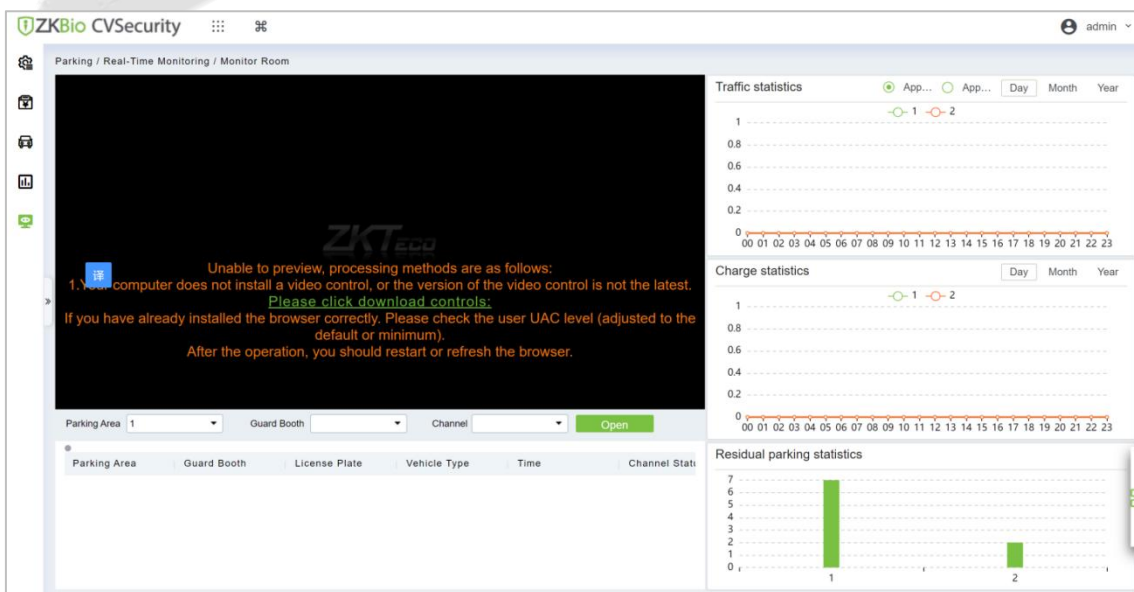

Figure 9-55 Monitoring Room Interface
Step 2: You can view relevant monitoring videos and data statistics in the monitoring room interface, as shown in Figure 9-55.